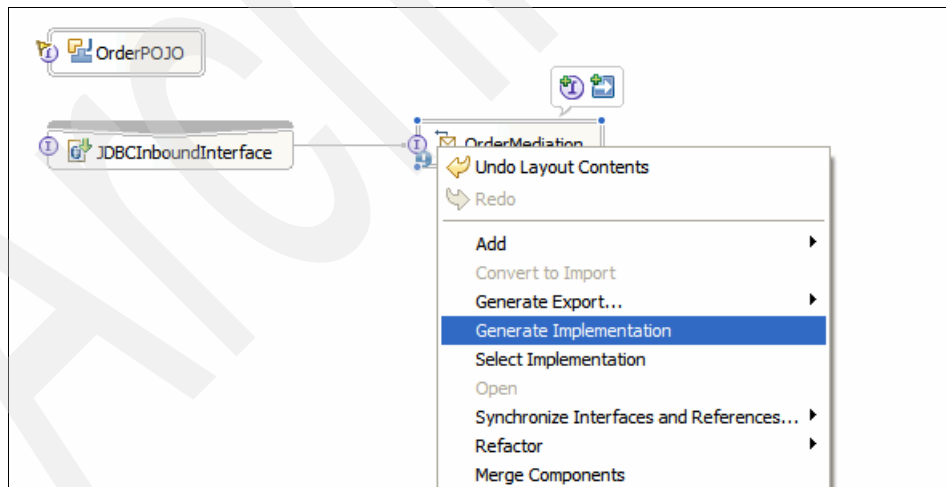

Figure 6-77 Generating the implementation of the mediation flow
4. Right-click **OrderMediation** and select **Generate Implementation**. When prompted, select the default location for the implementation (Figure 6-77).